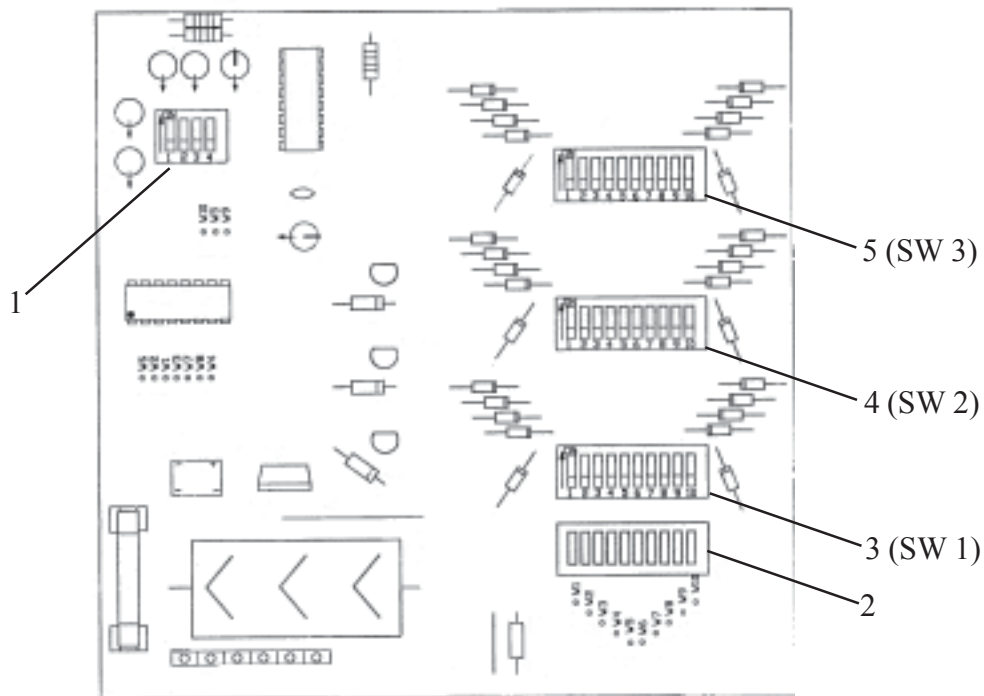

Figure 12
3. The 4 position dip switch (See Figure 12, Item #1) allows you to set how long each sequence step will last or how long the lights will be illuminated during each step. Set to desired duration according to the following chart.
4. Select which lights you want illuminated at any given step by using the three 10 position dip switches (See Figure 12, Items #3, #4, #5). Each 10 position dip switch controls a light or a set of lights. Each dip switch within a row is equal to the time length programmed in Step 3. Therefore, the total program length is equal to this time step multiplied by 10 since there are 10 dip switches within each row. Determine the desired program, and turn each dip switch ON or OFF accordingly. The LED lights (See Figure 12, Item #2) indicate which step you are in or which row of switches are activated.